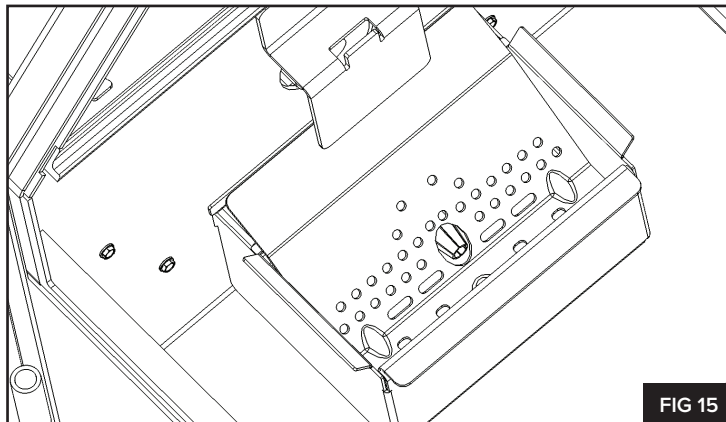

FIG 15
5. Re-install the burn grate **(FIG 15)**. Begin by resting the right hand side of the burn grate on the fire box and then pressing down on the left hand side of the burn grate until fully seated. When the burn grate is properly seated it rests firmly on the right hand side of the firebox and fits close to the hopper wall. Finally, ensure the igniter assembly is centered in the respective hole in the burn grate.